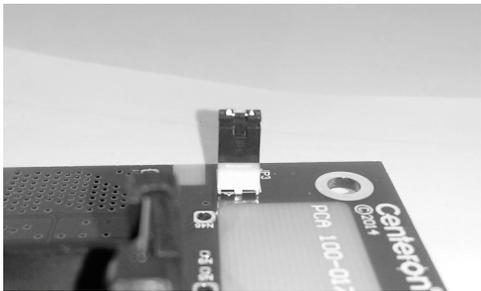

Figure 1. Disable Jumper in disable position
- Pull the Disable Jumper from JP3 (See Figure 1) completely out of the PCA of the Monitor. This will activate the Monitor to make measurements and transmit its data.